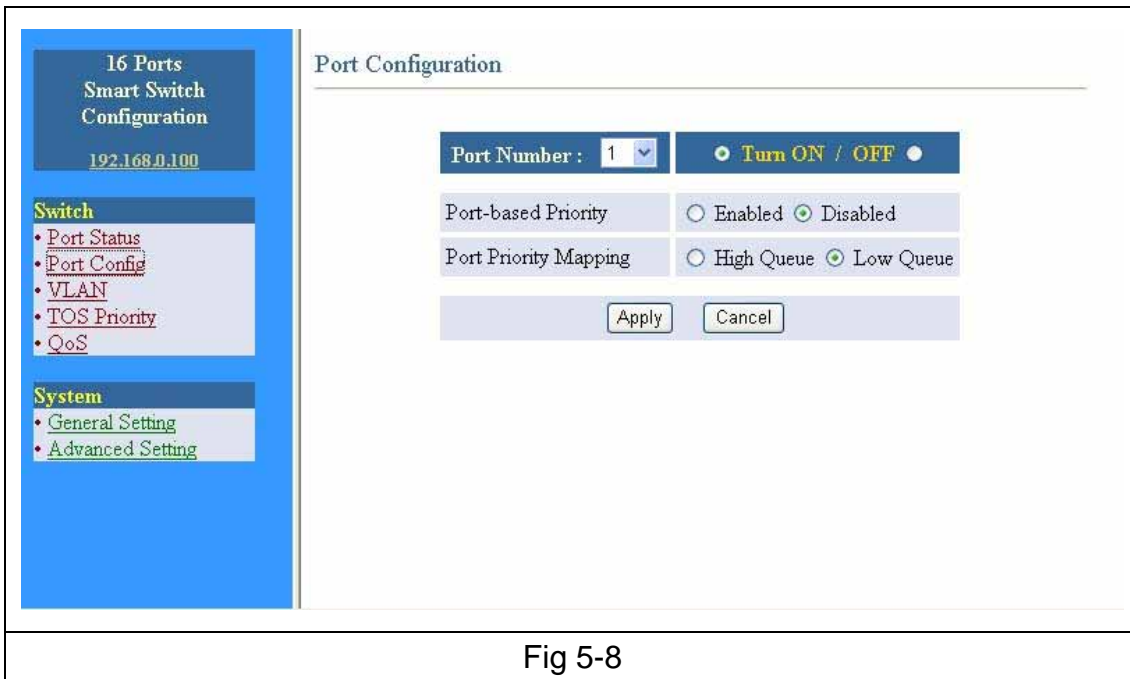

Fig 5-8
1. Select Port number to be configured. (Fig 5-8)